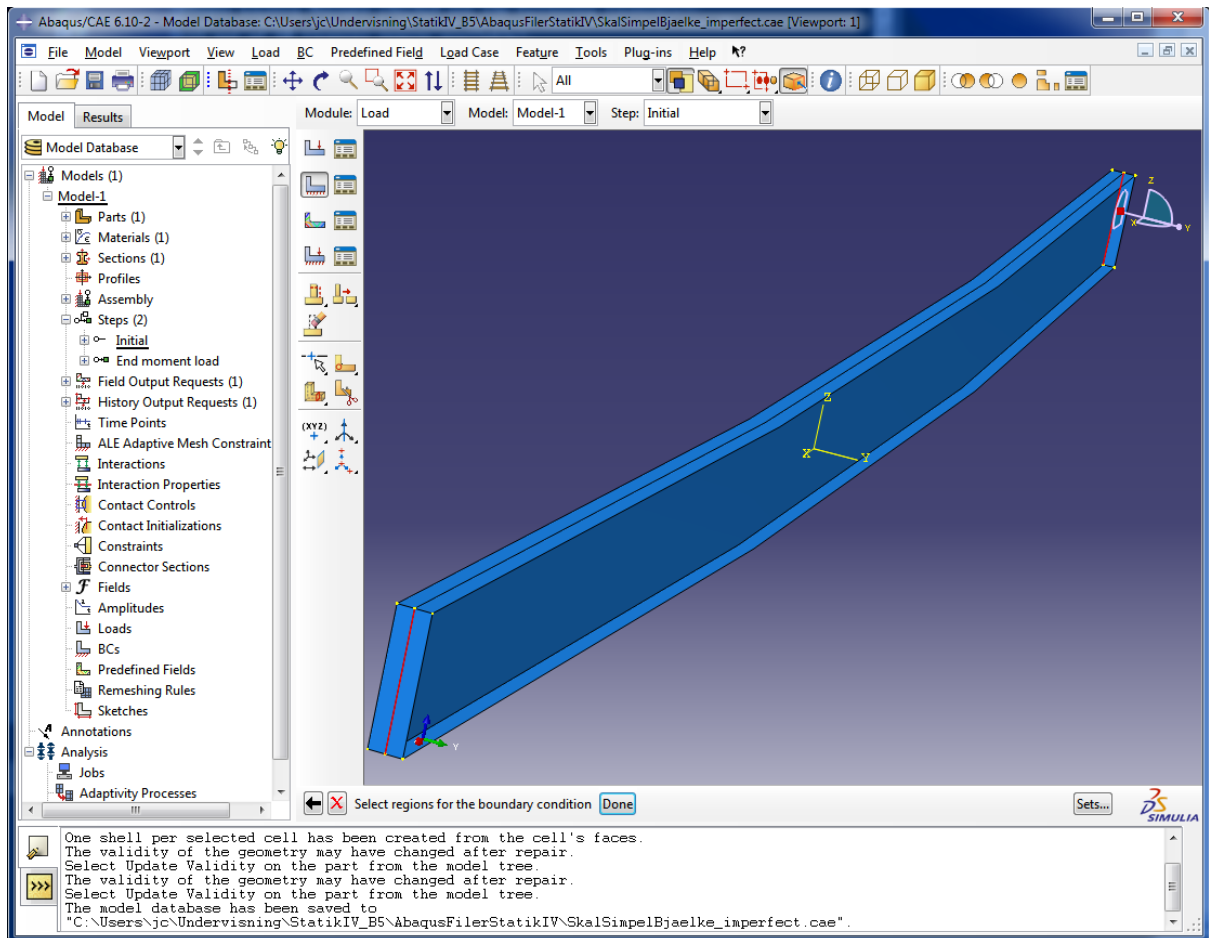

Figure 8 The midlines at both ends have been selected for application of supports in the y-direction.
- e. When the midlines at both ends have been highlighted as indicated in Figure 8, click **Done** in the prompt area.